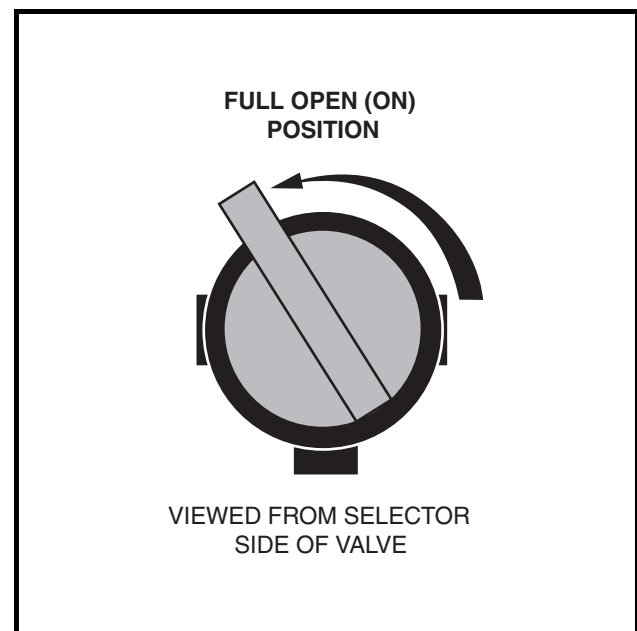
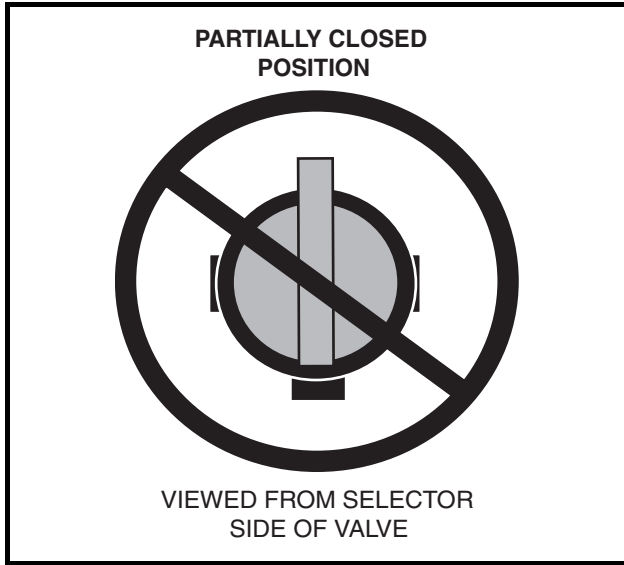

Figure 14-21 Open Fuel Shut-off Valve
Figure 14-22 Incorrect Fuel Shut-off Valve
10. Check to be sure the fuel shut-off valve on top of the gas tank is in the open (ON) position (**Figure 14-21, Page 14-28 and Figure 14-22, Page 14-29**).
For the valve to be fully open, it must be turned approximately 120° from the closed (OFF) position (until it cannot be turned any further) (**Figure 14-21, Page 14-28**). If the valve becomes partially closed the engine will not run properly due to fuel starvation (**Figure 14-22, Page 14-29**).